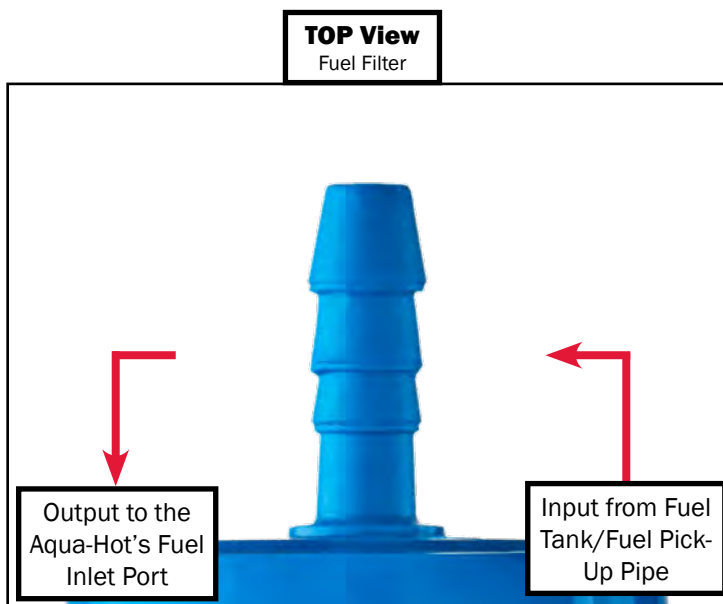

Figure 32
NOTE: Ensure that the fuel filter is installed with correct flow in mind as referenced in Figure 32.
2. Install and tighten the fuel fittings onto the two ports of the fuel filter. Reference Figure 32 for the correct connection configuration.
5. Cut the fuel line at the fuel filter mounting location and connect the fuel lines as illustrated in Figure 32.